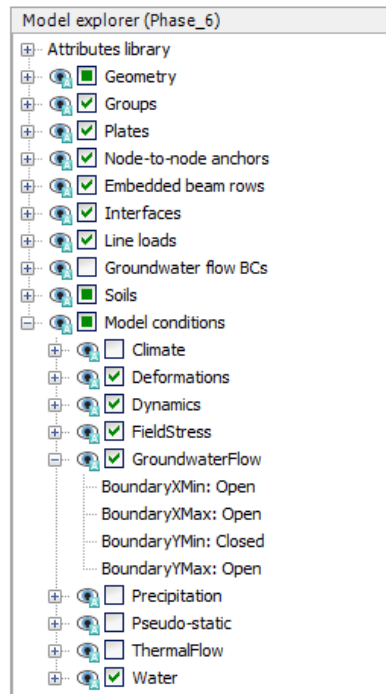

Figure 92: The GroundwaterFlow subtree under the Model conditions in the Model explorer
9. In the **Model explorer** expand **Model conditions** > **GroundwaterFlow**. The default boundary conditions are valid which is shown in Figure 92 (on page 116).